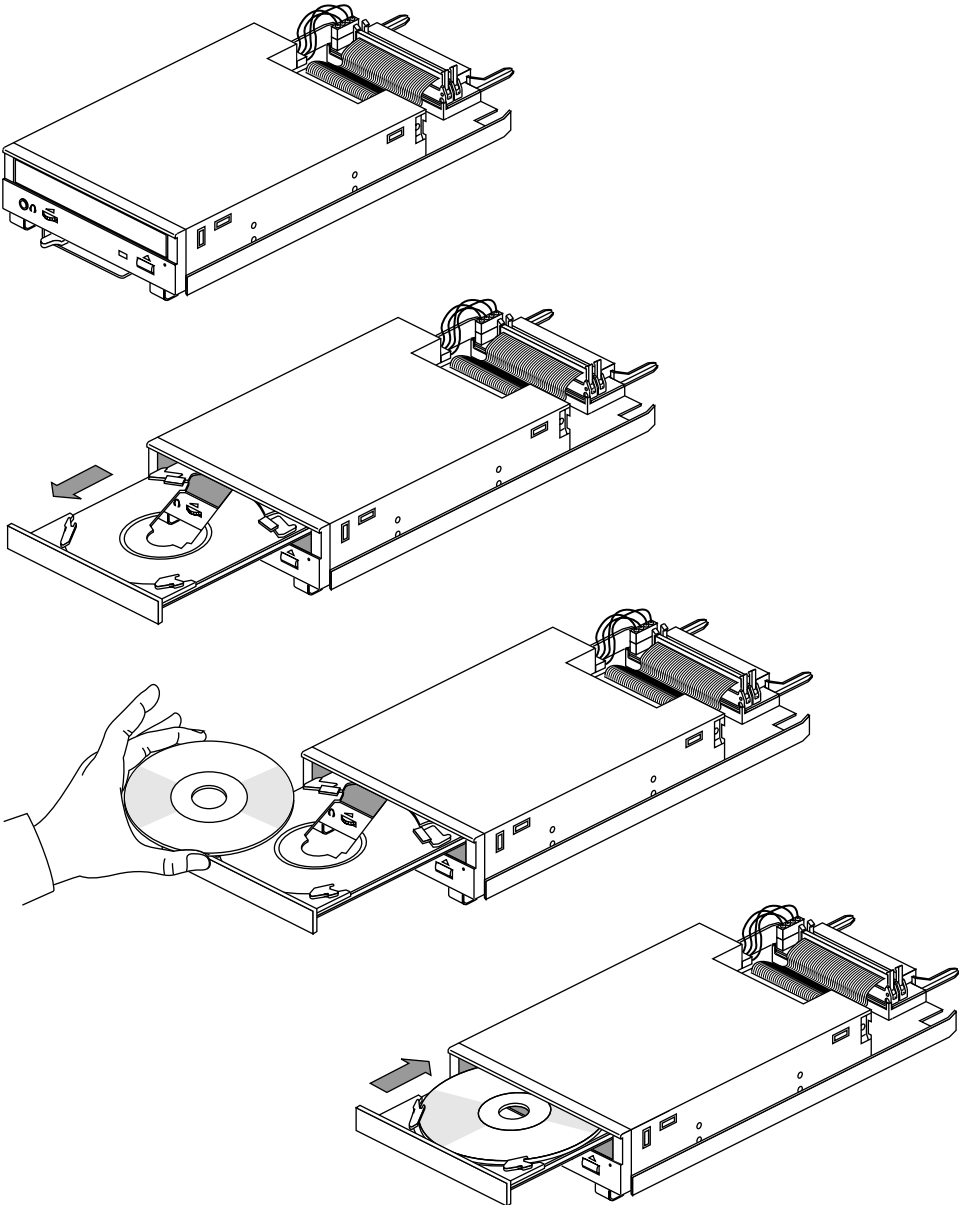

Figure 4-8 Loading a Disc Into the CD-ROM Drive
3. Open the CD-ROM drawer, pull back two of the retaining latches and insert the CD-ROM into the drawer, as shown in Figure 4-8.